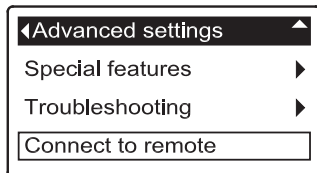
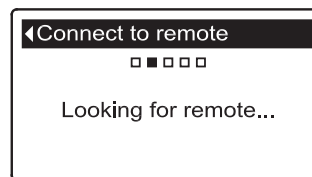
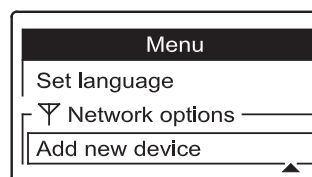

FIG. 39
FIG. 40
FIG. 44
4. Press the conditioner/refiner's SELECT (O) button to display the Advanced settings menu (See Figure 39).
7. Press the remote's DOWN (▼) button to scroll through the menu options until **Add new device** is highlighted in a box (See Figure 44).
9. Make sure the conditioner/refiner's display still shows the screen in Figure 39. Press the conditioner/refiner's SELECT (O) button to display the "Looking for remote" screen (See Figure 40).
10. Within a few seconds the screen should change to show "Remote found" (See Figure 41). If, after about one minute, the conditioner/refiner's screen instead reads "New remote not found," press the conditioner/refiner's SELECT (O) button to return to the screen in Figure 39 and press the remote's LEFT (◀) button to return to the screen in Figure 44. Then repeat this procedure from Step 8. If the remote is not found after several tries, contact your dealer for service. Take note of the message on the remote's screen after an unsuccessful attempt, as it indicates the nature of the problem.
11. Press the conditioner/refiner's SELECT (O) button. The display will go back to the Advanced settings menu (Figure 39).
2. Press the DOWN (▼) button to scroll through the menu options until **Add new device** is highlighted in a box (See Figure 44).
4. When the remote detects a signal from the device, the display will change to show that it has been added to the remote (See Figure 46). If another message appears instead, indicating the device was not added successfully, press the LEFT (◀) button to return to the screen in Figure 44. Repeat Step 3. If this does not work, contact your dealer for service.